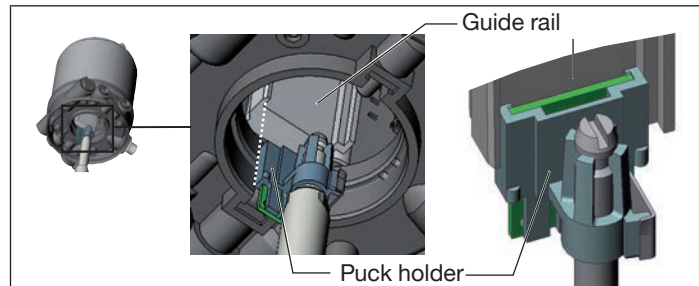

Fig. 6: Aligning the puck
2. the connection pieces of the control unit enter into the pilot air connections of the actuator (see “Fig. 6”).